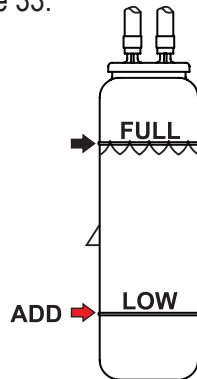

Figure 33. Coolant Reserve Tank
2. Verify that the coolant level in the **coolant reserve tank** is between the **FULL** and **LOW** markings as shown in Figure 33.